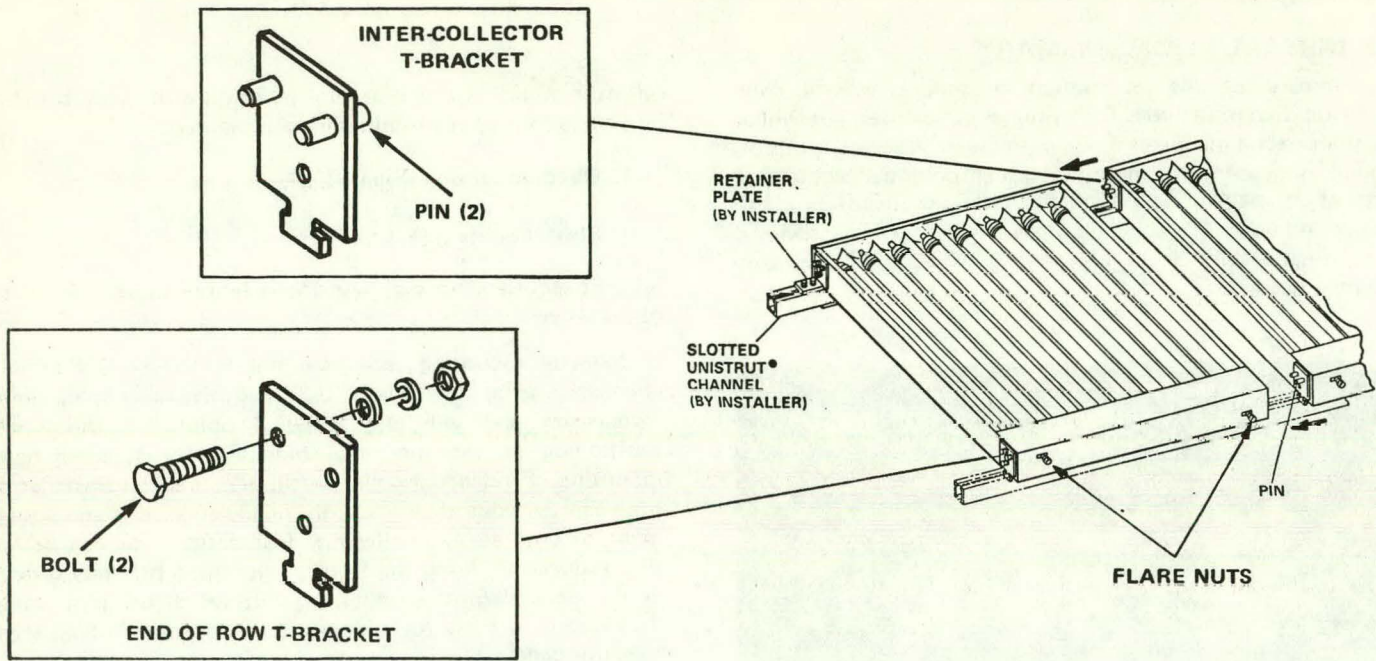
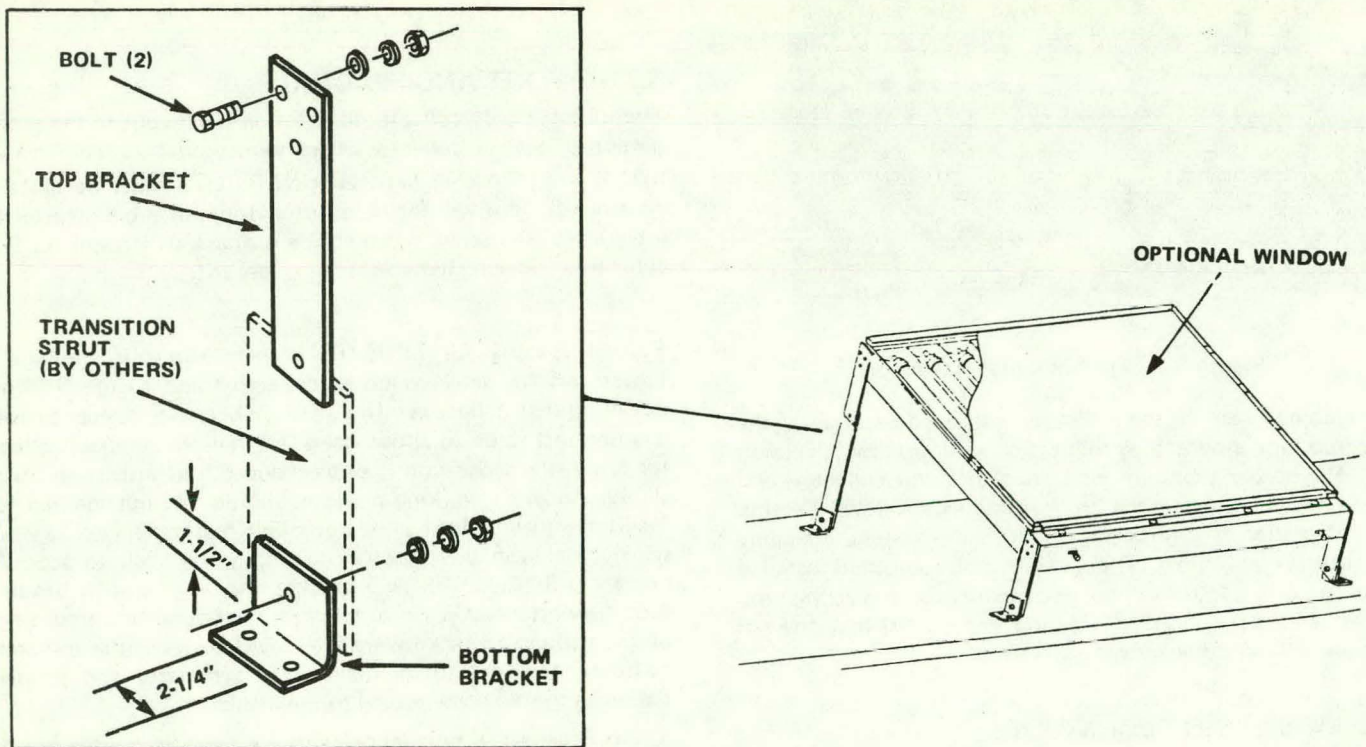
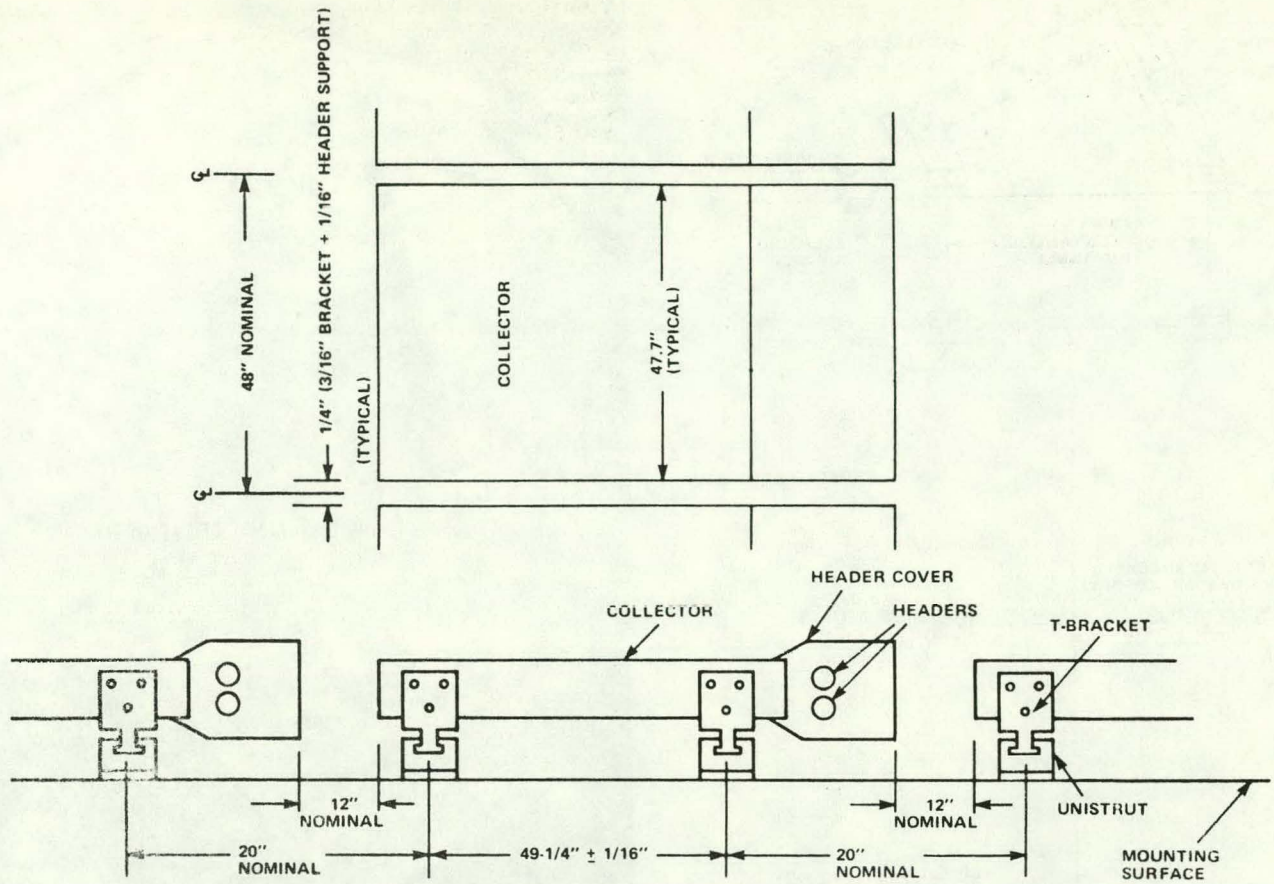
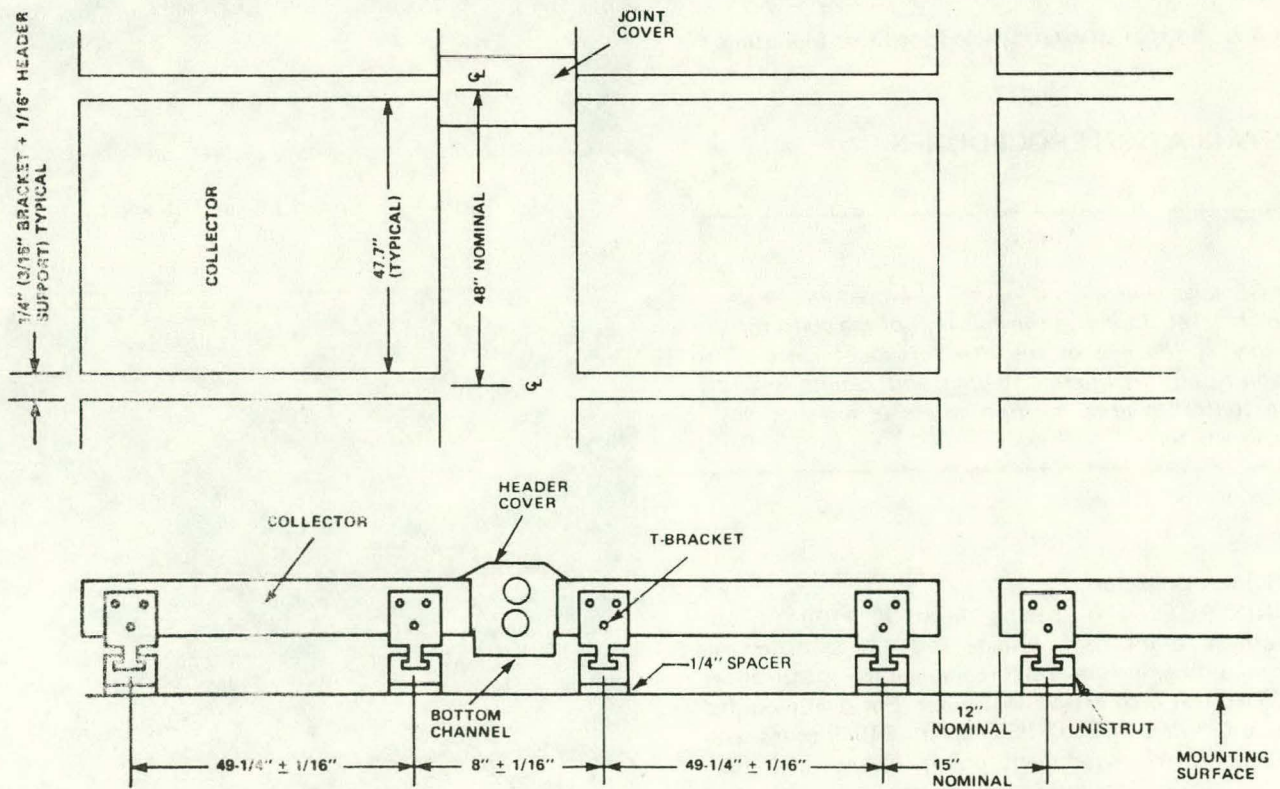

Figure 3-3. Direct Mounting Kits
Figure 3-4. Strut Mounting Kit
Figure 3-5. UNISTRUT Spacing (Single Mounted Collector) For Direct Mounting
Figure 3-6. UNISTRUT Spacing (Dual-Mounted Collector) For Direct Mounting
Mounting Bracket Kits (Figures 3-3, 3-4 and 3-5) for either sloping surface, flat-roof or space frame applications are available. Direct mounting bracket kits (Figure 3-3) include T-brackets which lock the collector to commercially-available UNISTRUT® channels which are attached to the roof or other substructure. "Internal" brackets utilize pins while "external" brackets are bolted. The strut mounting option (Figure 3-4) offers a standard top and bottom bracket design for use with contractor-supplied transition struts. Space frame bracket kits (Figure 3-5) provide a standard L-bracket with a 3/8-inch threaded U-clamp for 3" diameter tubes. All three kit options include the required nuts, bolts and washers.
1. Direct mounting (Figure 3-3).
2. Strut mounting (Figure 3-4).
A collector mounting technique that utilizes a UNISTRUT channel attachment (Figure 3-3) provides a simple, quick installation and will also allow flexibility in the lateral positioning of the mounting brackets. By avoiding hard-mounting of individual collector support brackets, installation time can be reduced significantly in the alignment and attachment of brackets and collectors. Installation time can be further reduced by using the internal mounting brackets offered in the General Electric mounting kits which use pins rather than nuts and bolts for slide-on interconnection of adjacent collector panels.
In a strut-mounted installation (Figure 3-4), hard mounting of individual collector support brackets is required to provide rigid support. Strut mounting will be somewhat more time consuming than a direct mounting in terms of both alignment and attachment. Cross-bracing may be required for lateral support.
Typical spacing for UNISTRUT installations is shown in Figure 3-5 for single-mounted collectors and Figure 3-6 for dual-mounted collectors. The distance between adjacent rows is a nominal value to allow access. For a more compact collector array, the separation may be reduced, but provisions for a sliding ladder or working platform should be implemented to facilitate installation and potential maintenance. Lateral spacing between collectors is nominally 1/4 inch to accommodate a 3/16-inch thick T-bracket and a 1/16 inch header tube support bracket. In a dual row configuration, mounting of tube support brackets are alternated between the top and bottom collectors to maintain array symmetry and proper fitting of the collector tubing to the headers.
Install UNISTRUTS with spacing shown in Figure 3-5 or 3-6 and attach to the roof, (Figure 3-8), or substructure. For roof mounting, include 1/4" neoprene-type spacer under the UNISTRUT at each attachment point. For dual mounted collectors, use P5500 series UNISTRUT or P1000 series with 1/4" spacers at the attachment points. Single- and dual-mounted collector installation instructions are described in the following sections. Use the instructions that apply to your configuration.
1. Install all transition struts (Figure 3-4) and top brackets to the bottom brackets.